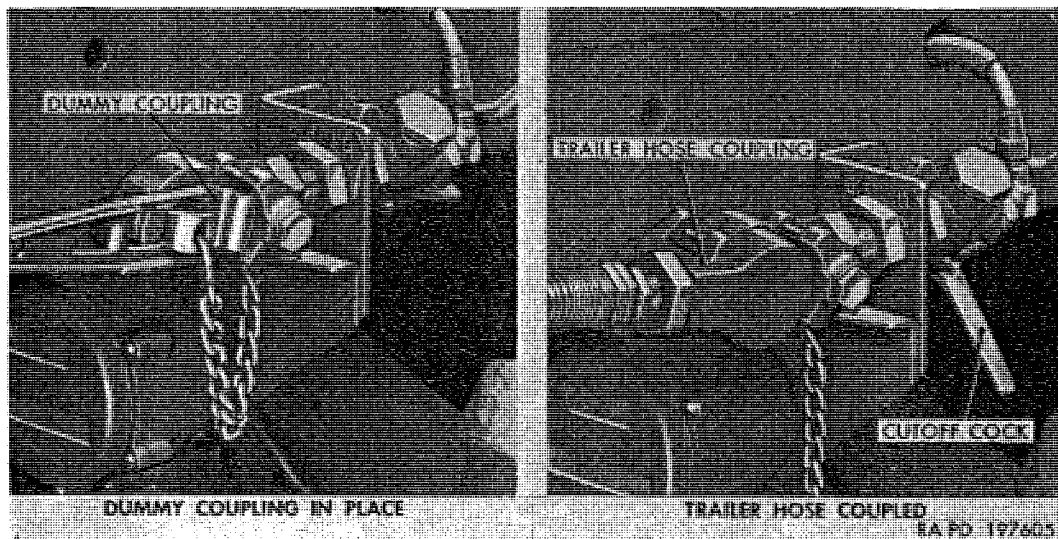
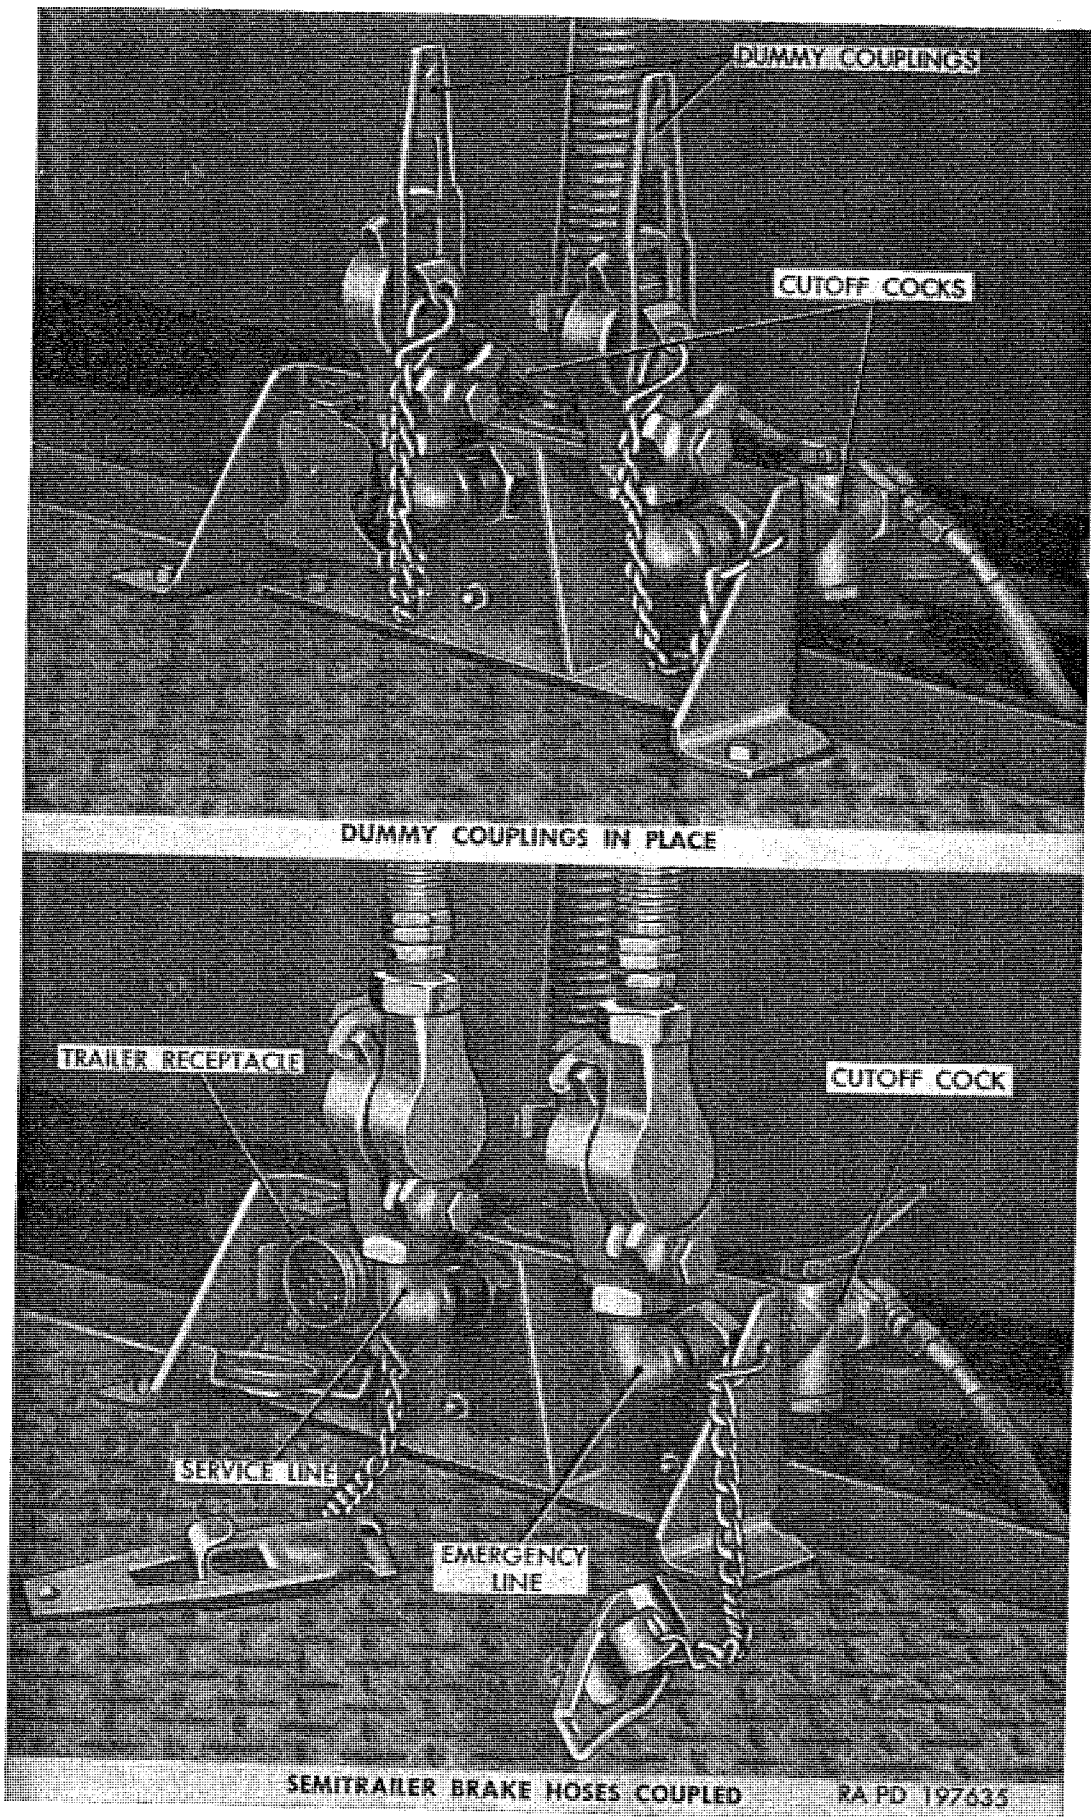
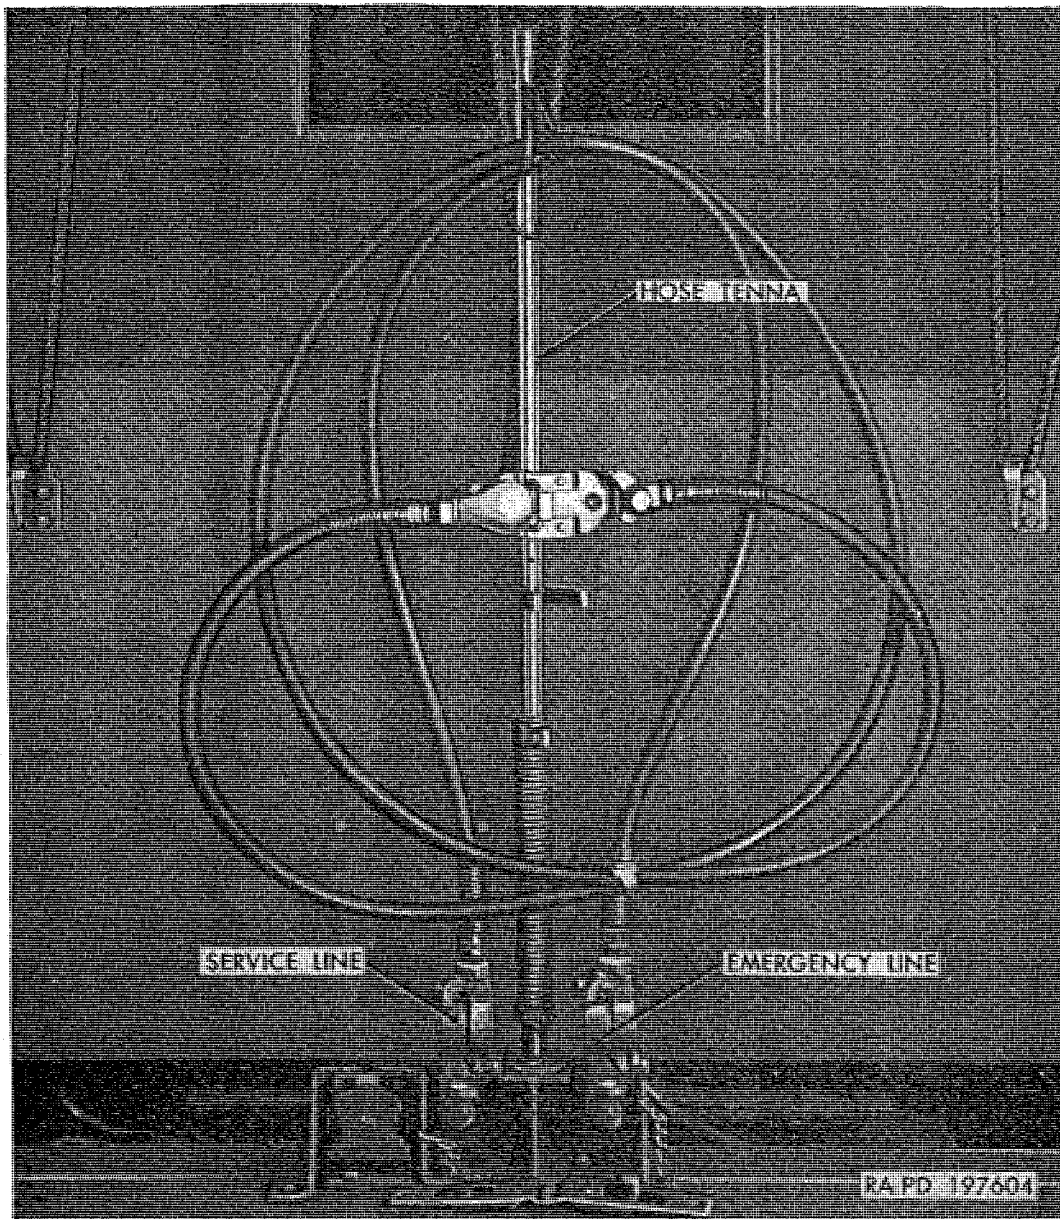

Figure 34. Trailer brake connection at rear of vehicle (EMERGENCY line shown).
Figure 35. Semitrailer brake connections at rear of cab (truck tractor M221).
Figure 36. Semitrailer brake hose-tenna and connections (truck tractor M221).
- (1) *Rear of vehicle* (fig. 34). All vehicles, except gasoline tank truck M217 and water tank truck M222, are equipped with an air line coupling at rear end of vehicle on right and left sides. Coupling at right side of vehicle, marked EMERGENCY, delivers a constant supply of compressed air to trailer brake system. Coupling at left side of vehicle, marked SERVICE, delivers air pressure to trailer operating valve when vehicle service brakes are applied. A cutoff cock at
(2) *Tractor semitrailer connections.* The truck tractor M211 is equipped with semitrailer air line couplings at rear of cab (fig. 35) in addition to those provided at rear of vehicle. These couplings are marked and function in same manner as described in (1) above. Two trailer hose and coupling assemblies are mounted on a hose-tenna as illustrated in figure 36. The hose-tenna is flexible, permitting movement of hose connections to prevent breakage of hoses when connected to semitrailer.
(1) *Connecting trailer brake lines.* When connecting trailer brake couplings at rear of vehicle (fig. 34) or at semitrailer connections at cab of tractor (fig. 35), remove dummy coupling from EMERGENCY and SERVICE couplings on truck and trailer. Couple trailer EMERGENCY and SERVICE line coupling halves to truck EMERGENCY and SERVICE line coupling halves, making certain that the
- (2) On truck tractor M221, a semitrailer receptacle is mounted at rear of cab adjacent to the trailer brake lines (fig. 35). Main light switch controls semitrailer lights in same manner as explained in (1) above. In addition to connections for trailer lights, the trailer light receptacle at rear and at cab on the truck tractor M221 includes an auxiliary power circuit for operation of auxiliary units in trailer.